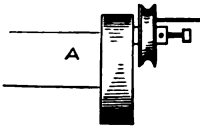

Fig. 5.
**Carrier and Sliding Centre.**—Fig. 5 is a most useful arrangement of ferrule and carrier, by Mr. Arthur